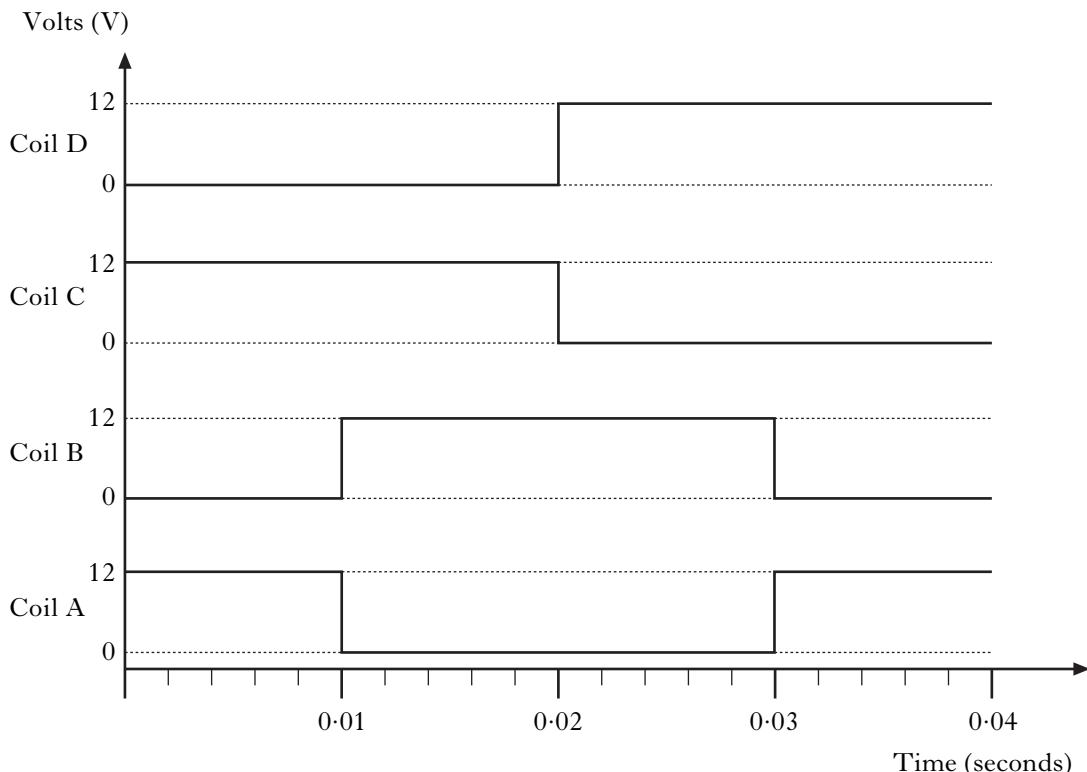

Figure Q3(b)
- (a) Write, in PBASIC, a sub-procedure *cw* which will rotate the stepper-motor clockwise through the **four** steps of the sequence shown in Figure Q3(b). 3